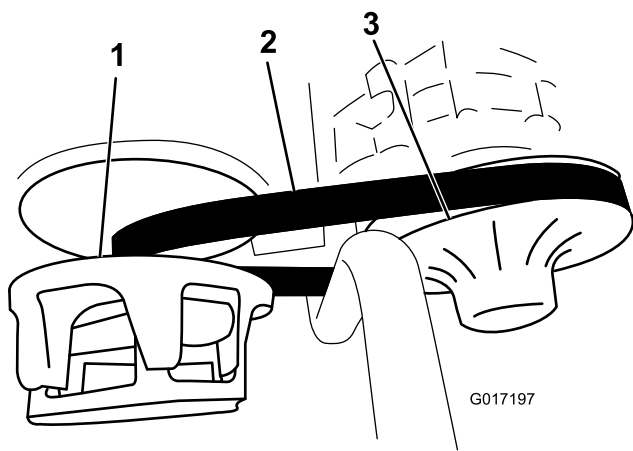

Figure 65
3. Rotate and inspect the belt (Figure 65) for excessive wear or damage.
3. Rotate and route the belt over the secondary clutch (Figure 65).
4. Remove the belt from the primary clutch (Figure 65).
5. Align the new belt over the primary clutch (Figure 65).
6. Rotate and route the belt over the secondary clutch (Figure 65).